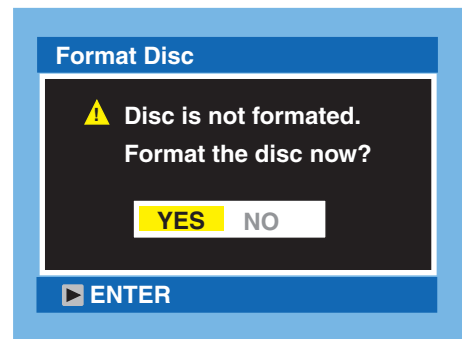

Fig. 4-9-1 Screen for Disc Formatting
- 4) After the disc is recognized, operate the following buttons to display the disc formatting screen (Fig. 4-9-1):